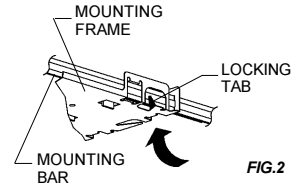

FIG.2
1. Insert the mounting bars into the proper openings on the short side or the long side of the mounting frame. (Fig.2)
- Note-2:** To lock more securely into place fold the locking tabs. (Fig.2)